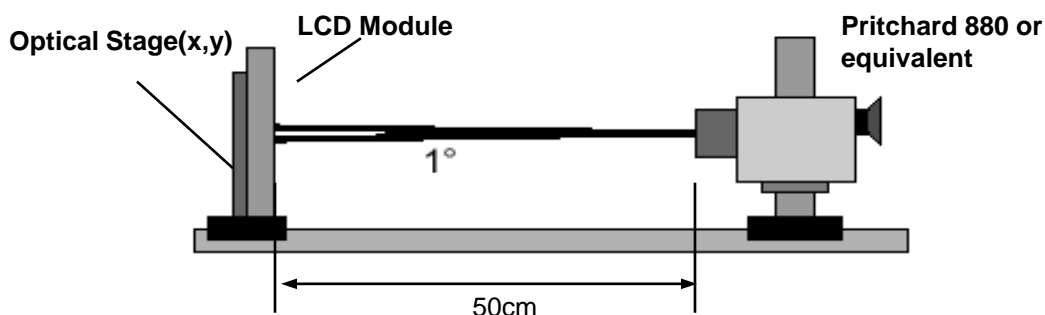

FIG. 3 Optical Characteristic Measurement Equipment and Method
2. Surface luminance are determined after the unit has been 'ON' and 1 Hour after lighting the backlight in a dark environment at  $25 \pm 2^\circ\text{C}$ . Surface luminance is the luminance value at center 1-point across the LCD surface 50cm from the surface with all pixels displaying white. For more information see the FIG. 3.